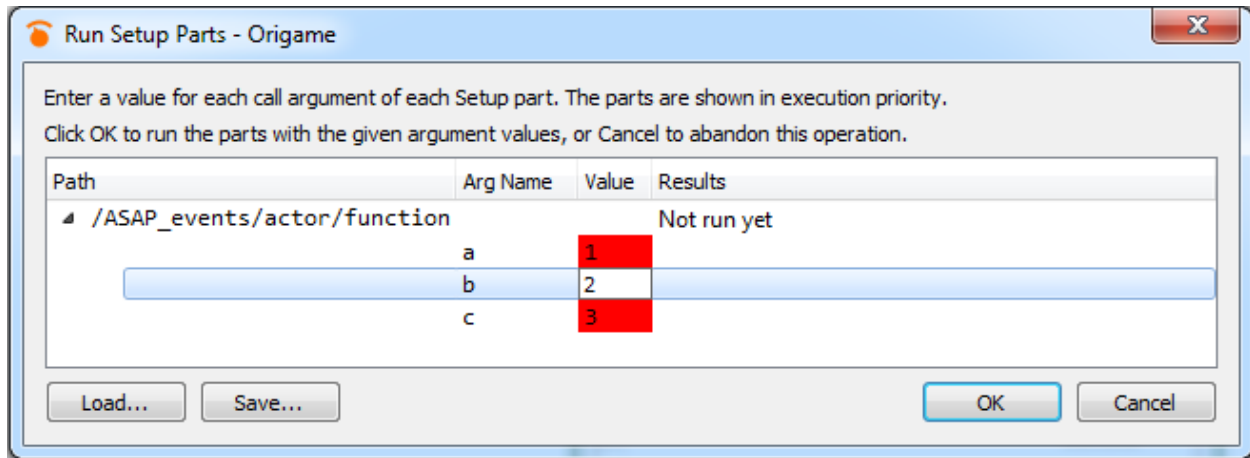

Fig. 3.29: The *Run Setup Parts* dialog allows the user to set values for each call argument to the *setup* function part.
- Setup marker: appears as an orange gauge on the top-left of the part (see Figure 3.30) and flags the part as a Setup part. Parts with this role are only run when the user clicks the “Run Setup Parts...” button in the *Main Simulation Control panel*. Clicking the button opens the dialog shown in Figure 3.29). The user may enter values manually, load them via the *Load...* button or save arguments to load later via the *Save...* button. Files are saved with the extension ‘.pca’ (Part Call Arguments).